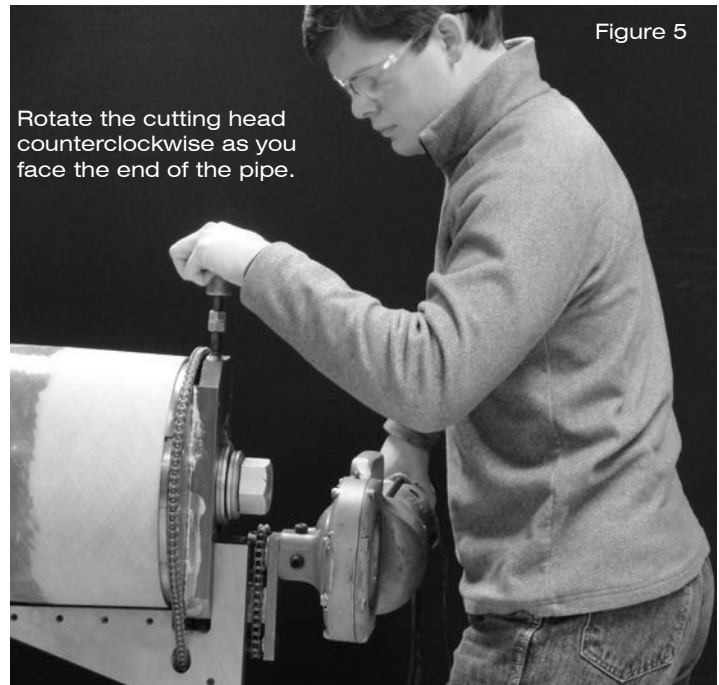

Figure 5
17. A power source may now be connected to the  $\frac{15}{16}$ " square shaft. (See Fig. 5.) The crank handle provided in the tool kit may be used for manual power.
19. All tapering must be done with the cutting head moving counterclockwise as you face the pipe. (See Fig. 5.)